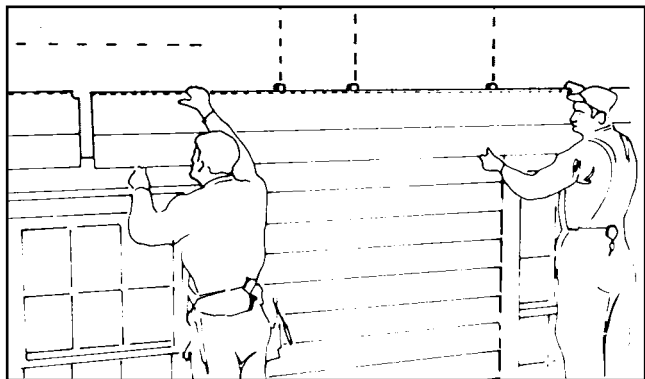

Fig 6.2
**2. CONTINUING COURSE** Succeeding panels should be installed end to end at the same level until each course (height of one panel of siding-corner to corner) is completed. It is generally preferred to work on one wall at a time installing from the back of the house to the front and in the same direction on each course. Check alignment with a carpenter's level every third or fourth course to be sure installation remains horizontal. It is especially important that siding courses line up evenly with doors and windows (Fig. 6.2)